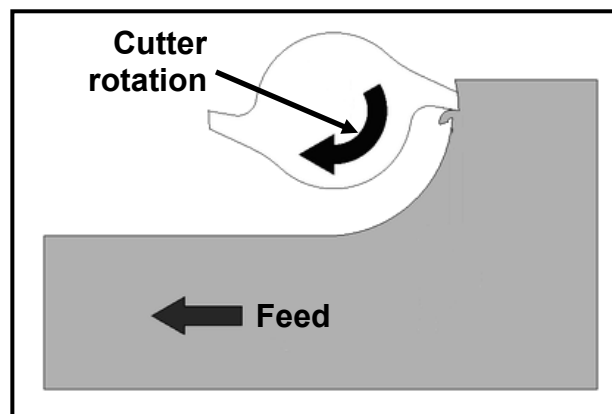

FIGURE 1.2
1.7 Identify the milling process in FIGURE 1.2 below.